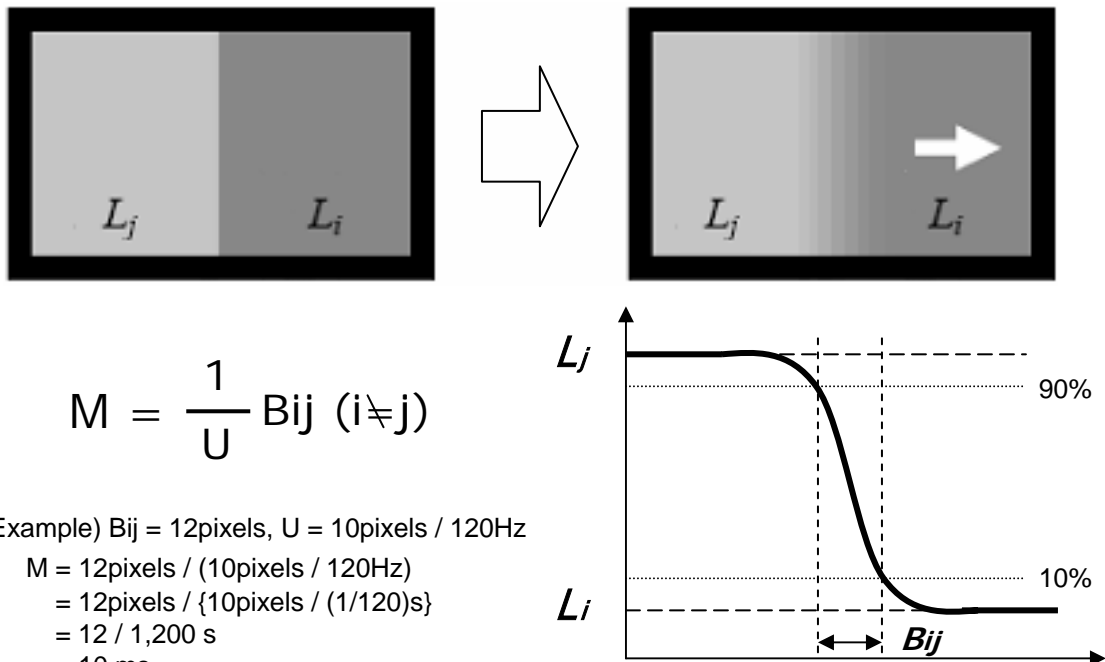

FIG. 3 MPRT
4. MPRT is defined as the 10% to 90% blur-edge width Bij(pixels) and scroll speed U(pixels/frame)at the moving picture. For more information, see FIG 3.